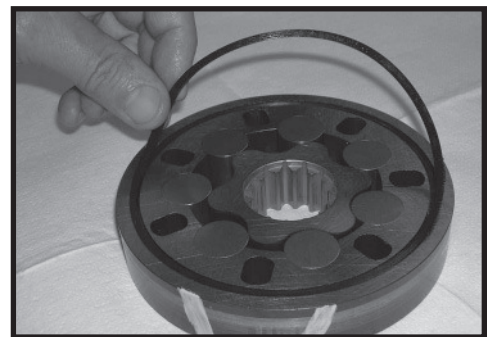

Figure 53
13. Apply a small amount of clean grease to a new seal ring (4) and assemble it into the seal ring groove on the wear plate side of the rotor set stator (8B). SEE FIGURE 53.